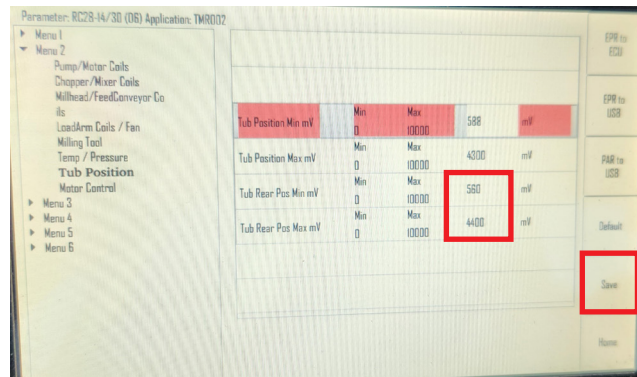

Figure 19: Input the 'IN_29' calibration values and save
22. Using the selector wheel, select 'Tub Rear Pos Min' and input calculated calibration value for 'IN_29' recorded in step 12; see Figure 19.
23. Using the selector wheel, select 'Tub Rear Pos Max' and input calculated calibration value for 'IN_29' recorded in step 15; see Figure 19.